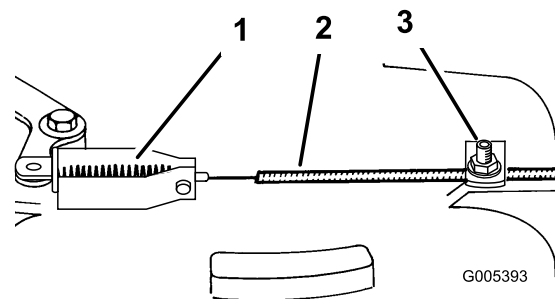

Figure 33
3. Loosen the cable clamp screw until the brake cable conduit slides (Figure 33).